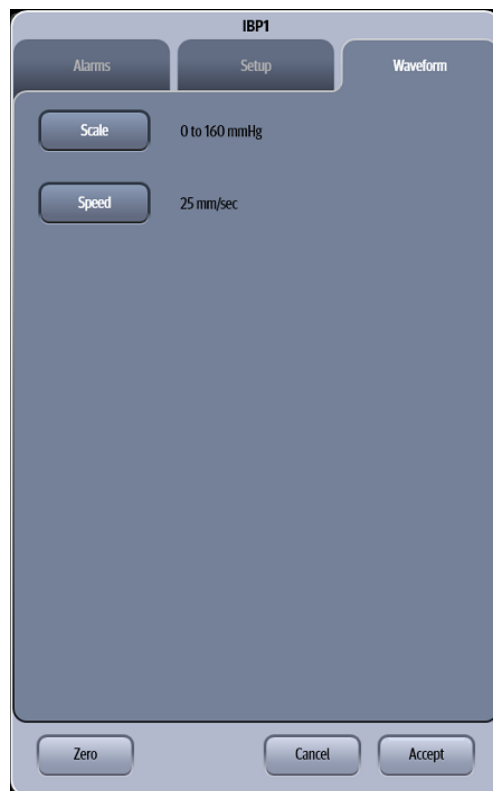

FIGURE 11-4 Example IBP1 Dialog (Waveform Tab)
2. Select the **Waveform** tab (as shown in FIGURE 11-4).